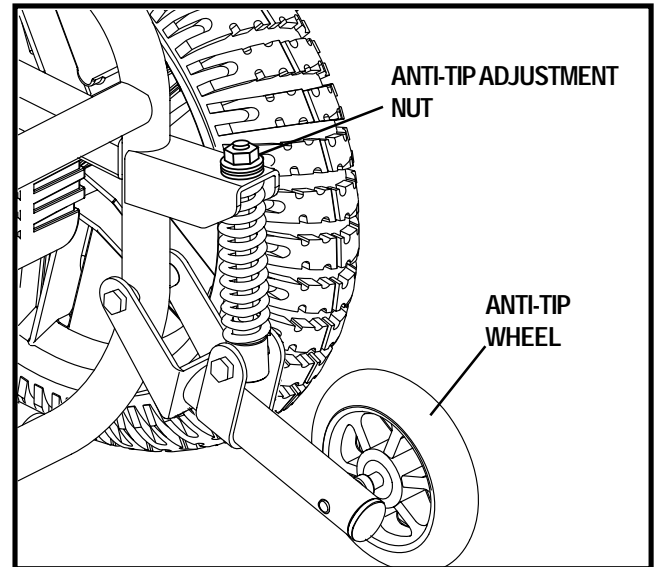

Figure 19. Anti-Tip Adjustment
6. Adjust the anti-tip adjustment nut so that the anti-tip wheel is 0.50-1 in. (1.27-2.54 cm) off of the ground. See figure 19. Turn the anti-tip adjustment nut to raise the anti-tip wheel or to lower the anti-tip wheel.